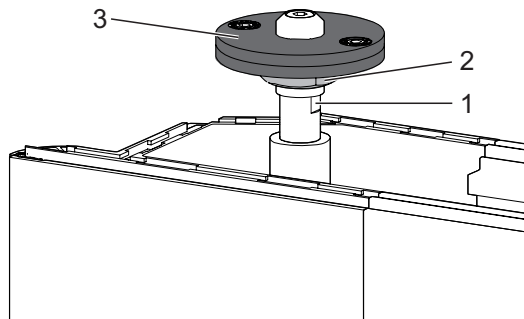

Fig. 29: Adjusting the pressure plate
3. Hold the bolt using a SW9 wrench (Fig. 29/1).
4. Loosen the nut (Fig. 29/2) using a SW18 wrench.
5. Turn the pressure plate (Fig. 29/3) with your hands upward or downward.
6. Retighten the nut (Fig. 29/2) using a SW18 wrench.